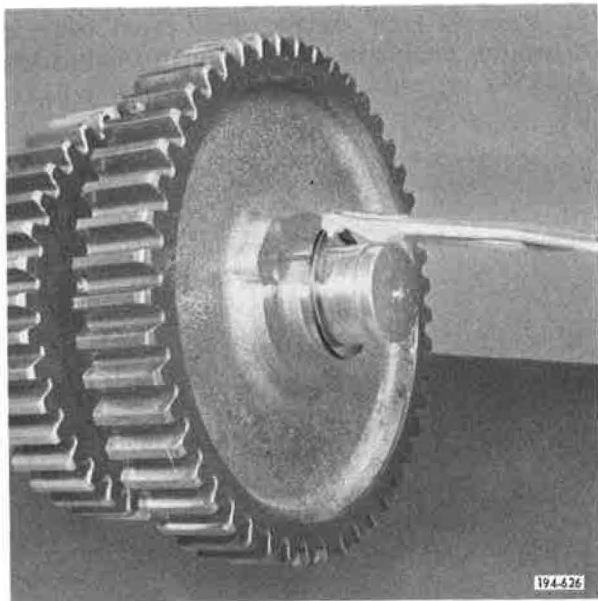

Figure 5-313. Removing Snap Ring
3. Remove front countershaft gear retaining snap ring, using snap ring pliers J-25445 or equivalent. See Figure 5-313.